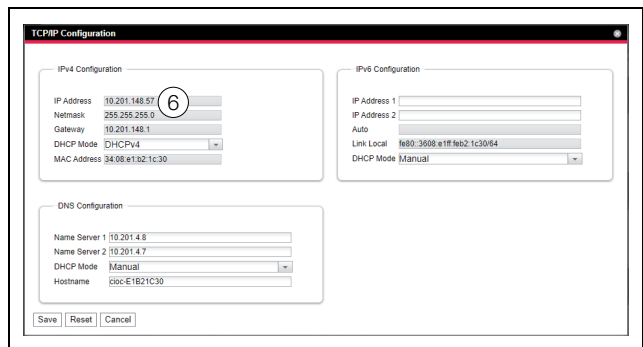

Fig. 98: Adjusting the TCP/IP settings
- In the **TCP/IP Configuration** window, change the device's IP address in the **IPv4 Configuration** group box to an address permitted in the network (fig. 98, item 6).